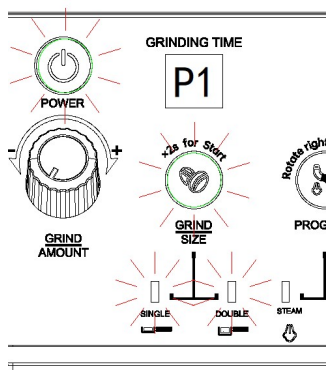

Figure 8
1. When the bean box is not installed the grinding capacity button indicator light, single cup grinding indicator light, and double cup grinding indicator light will flash. The display panel will display P1 alarm code (Figure 8) accompanied by a buzzer alert sound.